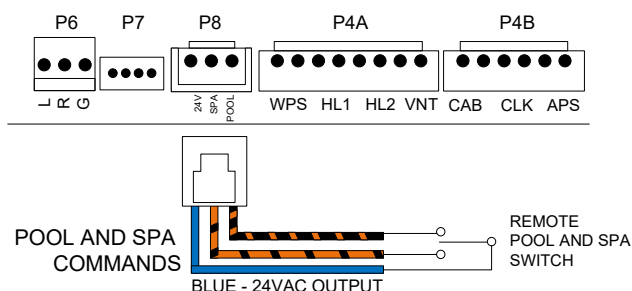

Figure 58. 3-Wire Remote Harness Installation
7. Install the "3-wire Remote Control Harness" to the P8 connector and turn power "ON" to the heater. See **Figure 58**.
5. Install the 3-wire "Remote Interface Harness" to the P8 connector and turn power ON to the heater. See **Figure 58**.